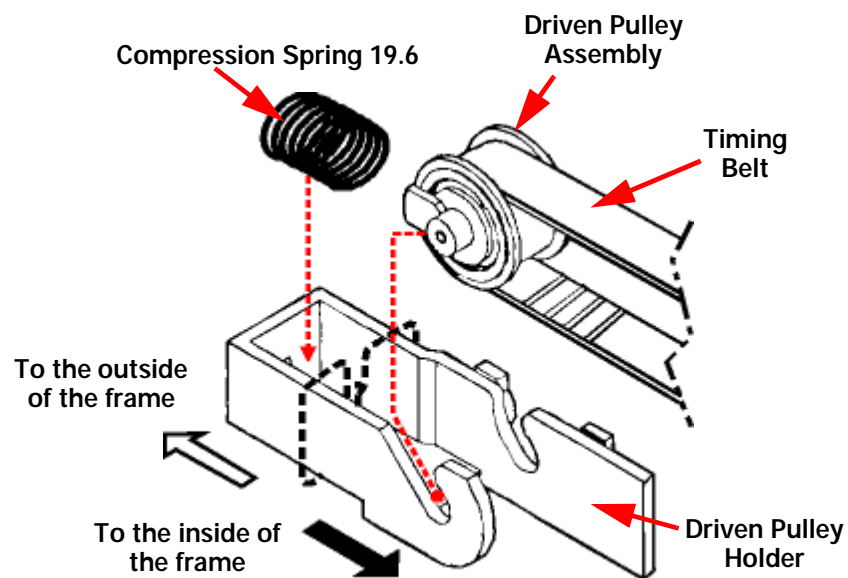

Figure 4-9. Removing the Timing Belt
When reinstalling the timing belt, make sure the driven pulley assembly fits tightly in the angled slots in the driven pulley holder. (Refer to Figure 4-9.)
2. Loosen the timing belt by pushing the driven pulley holder and remove the timing belt from the pulley of the CR motor side. (See Figure 4-9 on page 97.)